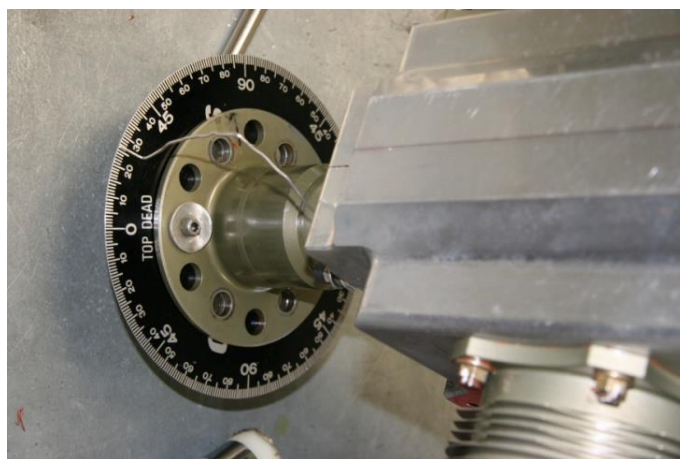

Figure 175 – Fitting Distributor Case & Setting Timing
- Apply Loctite 515 sealant to the gear case as shown in Figure 175.